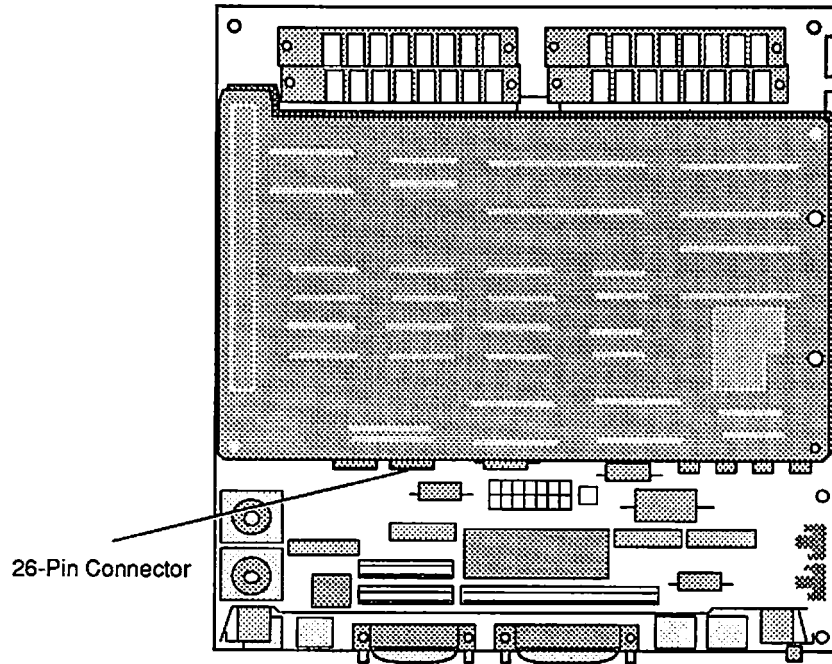

Figure 5-3 Connecting the Cable
9. **Figure 5-3.** Plug the cable into the 26-pin connector on the card.